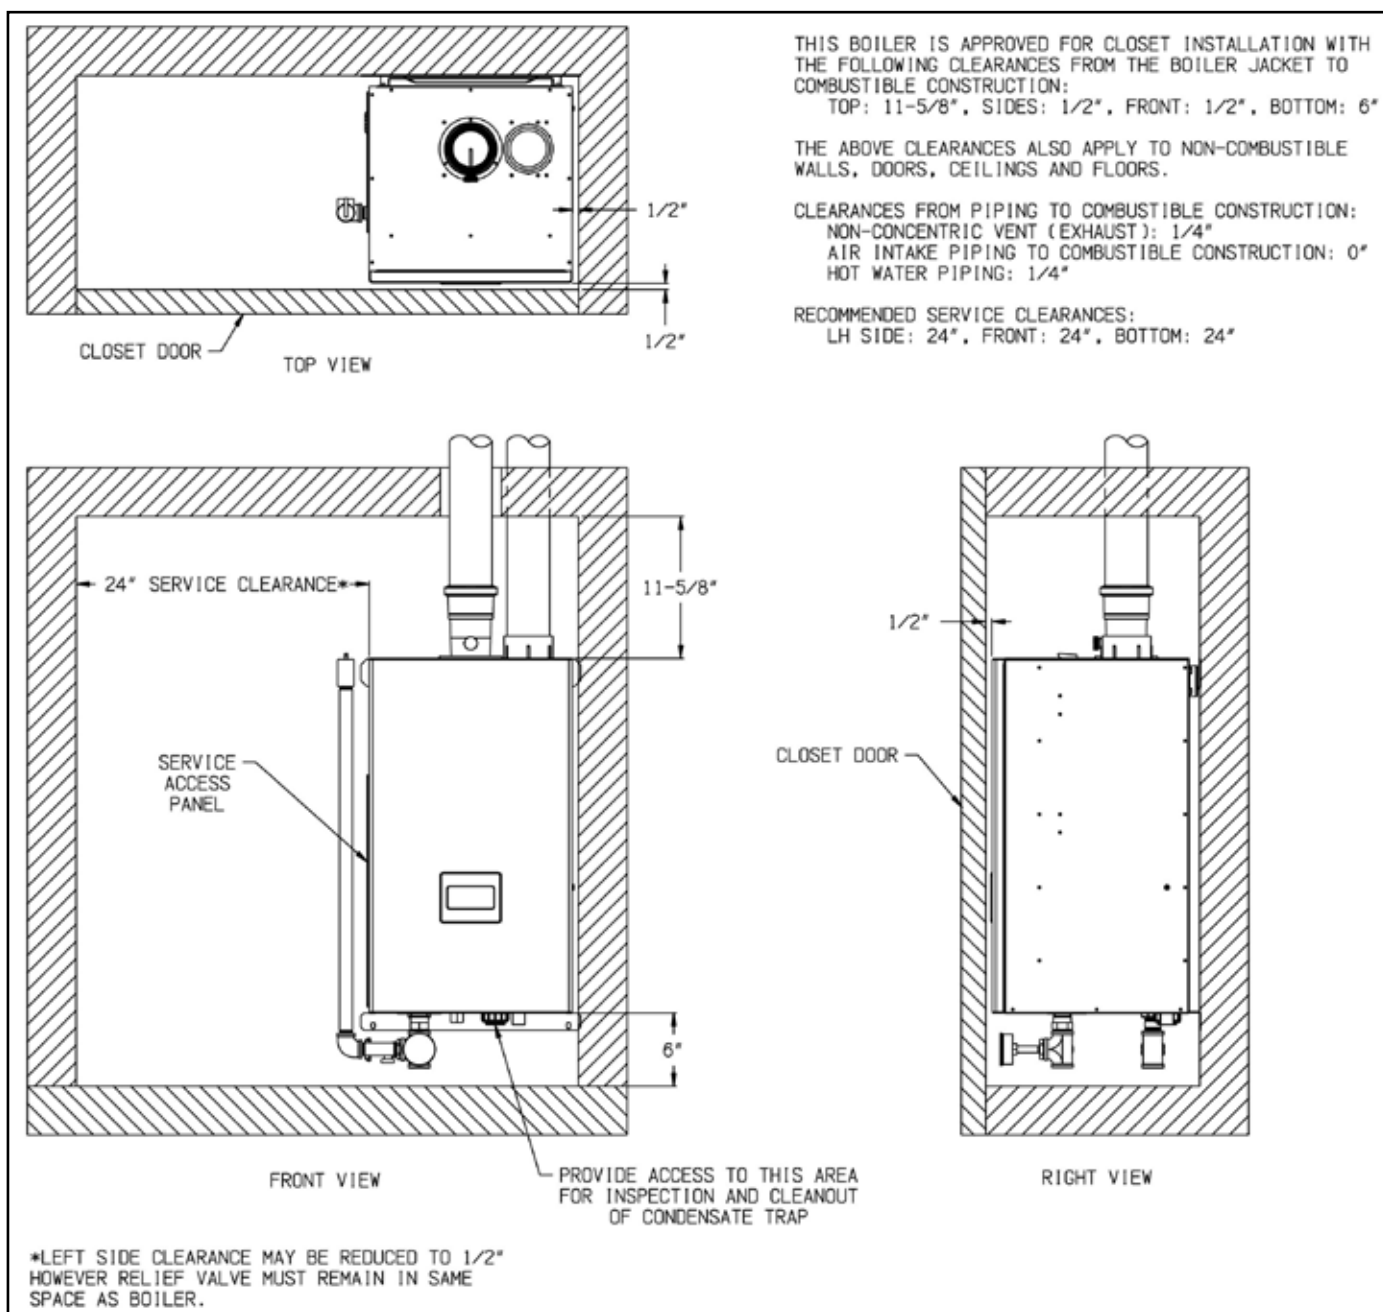

Figure 4.1: Minimum Clearances To Combustible Construction
- Observe the minimum clearances shown in Figure 4.1. These clearances apply to combustible construction as well as non-combustible walls, floors, ceilings and doors.
- Note the recommended service clearances in Figure 4.1. These service clearances are recommended, but may be reduced to the combustible clearances provided: